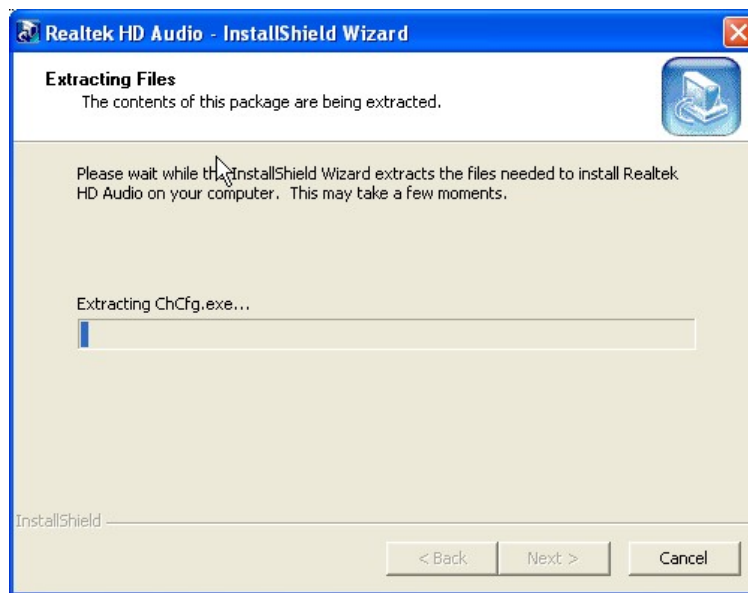

Figure 6-19: Audio Driver - Extracting Files
Step 4: The InstallShield Wizard starts to extracting files (**Figure 6-19**).